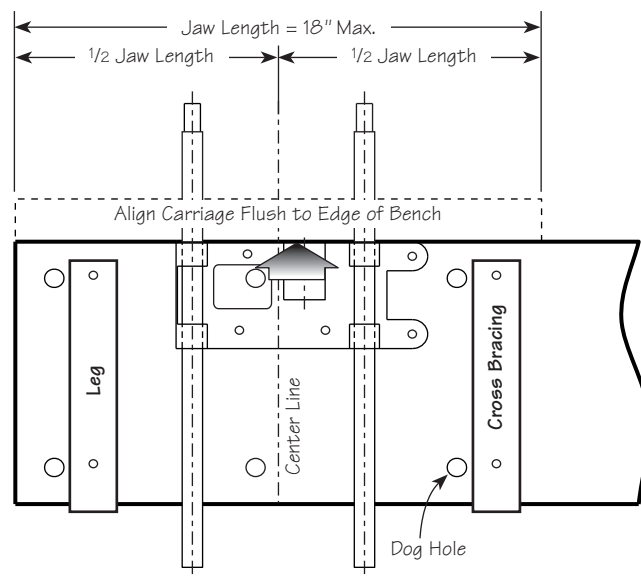

Figure 6: Positioning carriage to determine jaw length.
- With the bench placed upside down, roughly position the vise carriage on the underside of the bench where you would like it to go (see Figure 6). It is common to place the vise near a corner so that one end of the jaws will be flush with the end of the bench. This allows for crosscutting a clamped workpiece without interfering with the bench. Check for interference of the carriage mounting holes, the guide rods and the lead screw with any dog holes or the placement of the bench leg. Transfer the center line of the carriage onto the bench to determine the length of the jaws. A good length for the Regular Front Vise (70G08.01) is 12" to 15". For the Large Front Vise (70G08.02), it may be up to 18" long. Racking problems may be experienced if jaws are longer than 18" (see *Vise Racking*).